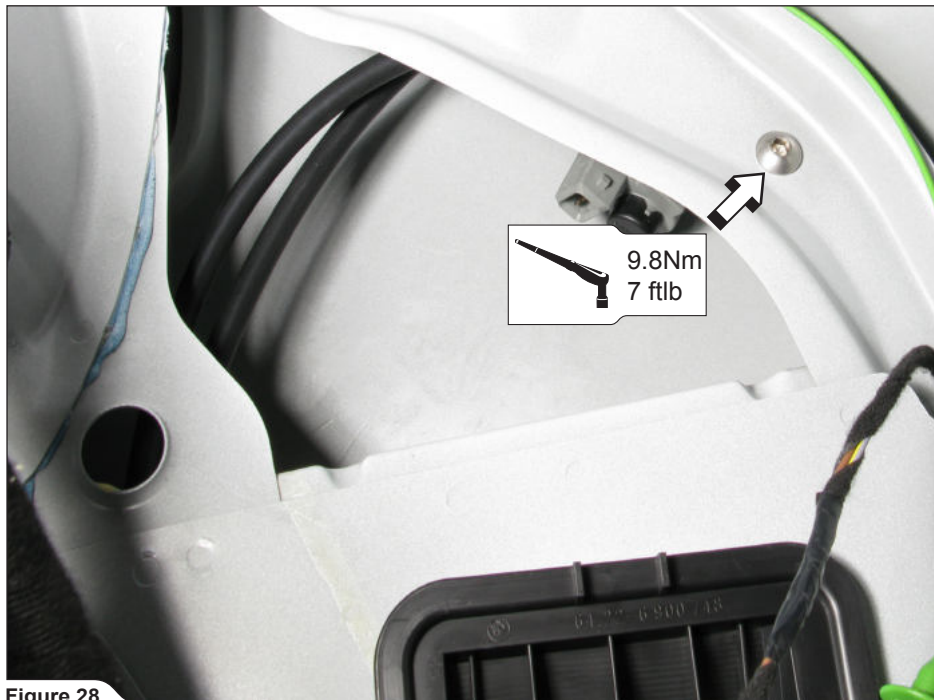

Figure 28
19. Attach the electromagnetic valve onto the chassis, using M6x16 bolt from Akrapovič installation kit (Figure 28).